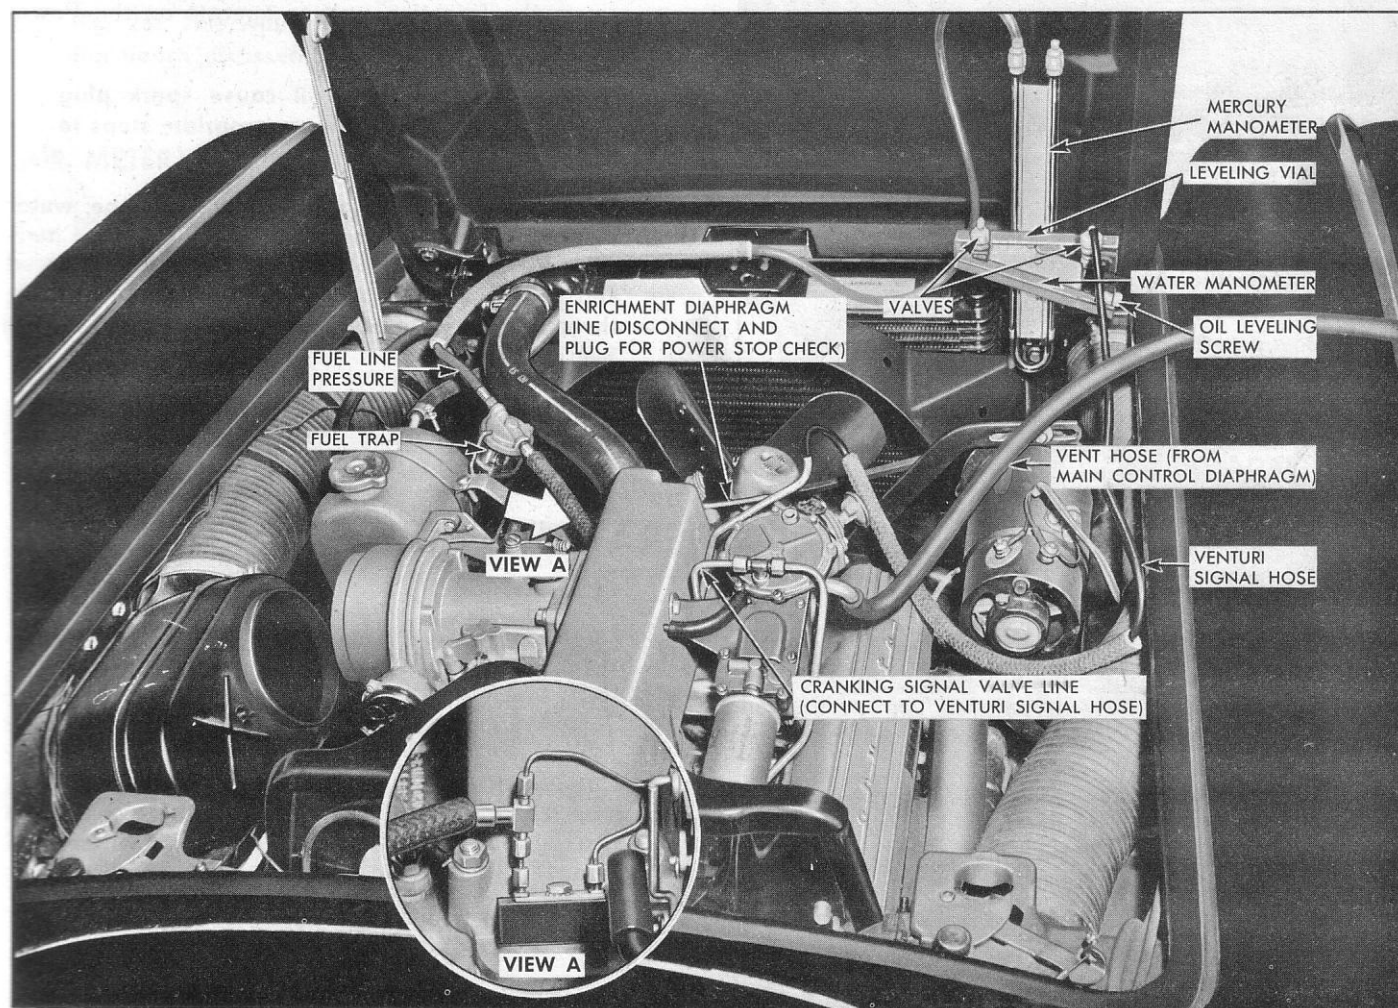

Fig. 25—Manometer Installation (Typical)
Refer to Figure 25 for a typical manometer installation.
5. Install the tee fitting in the fuel nozzle circuit most easily accessible (see inset of Figure 25).